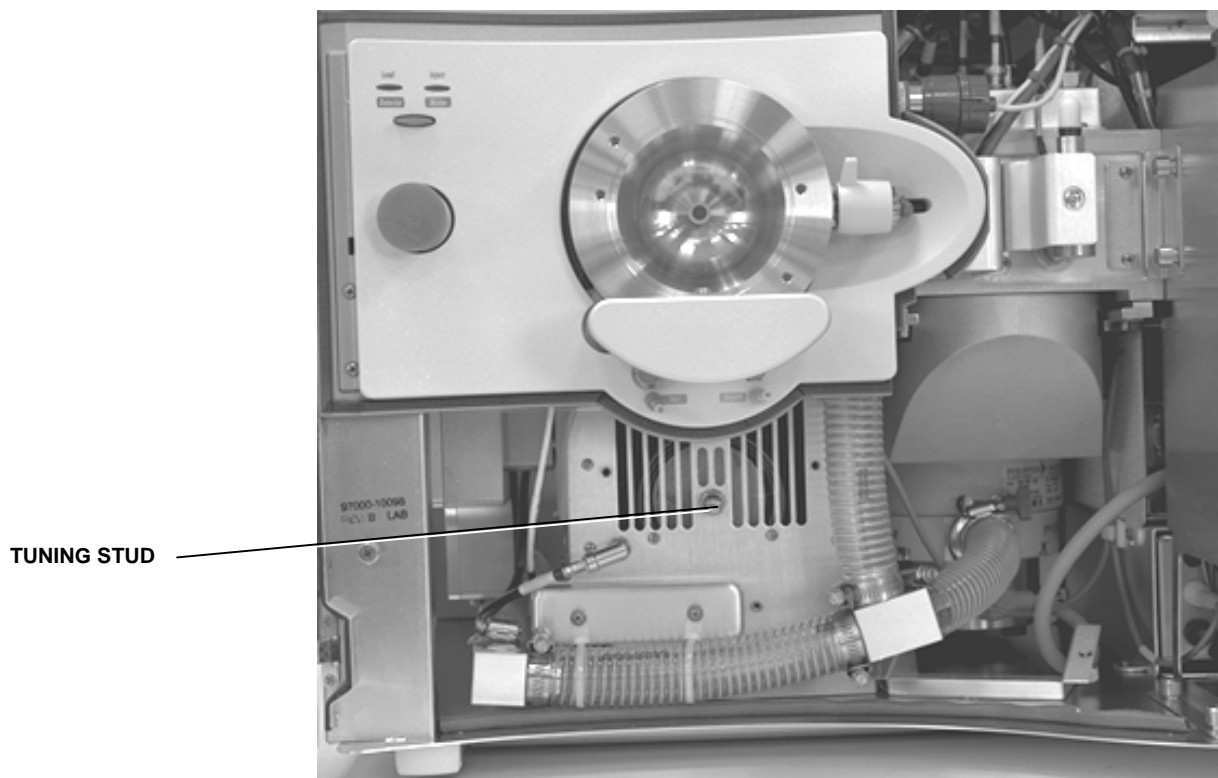

Figure 5-8. Ring electrode RF voltage tuning stud (with air deflector removed)
- c. With a wrench, loosen the 9/16-in. lock nut that holds the tuning stud in place. See Figure 5-8.